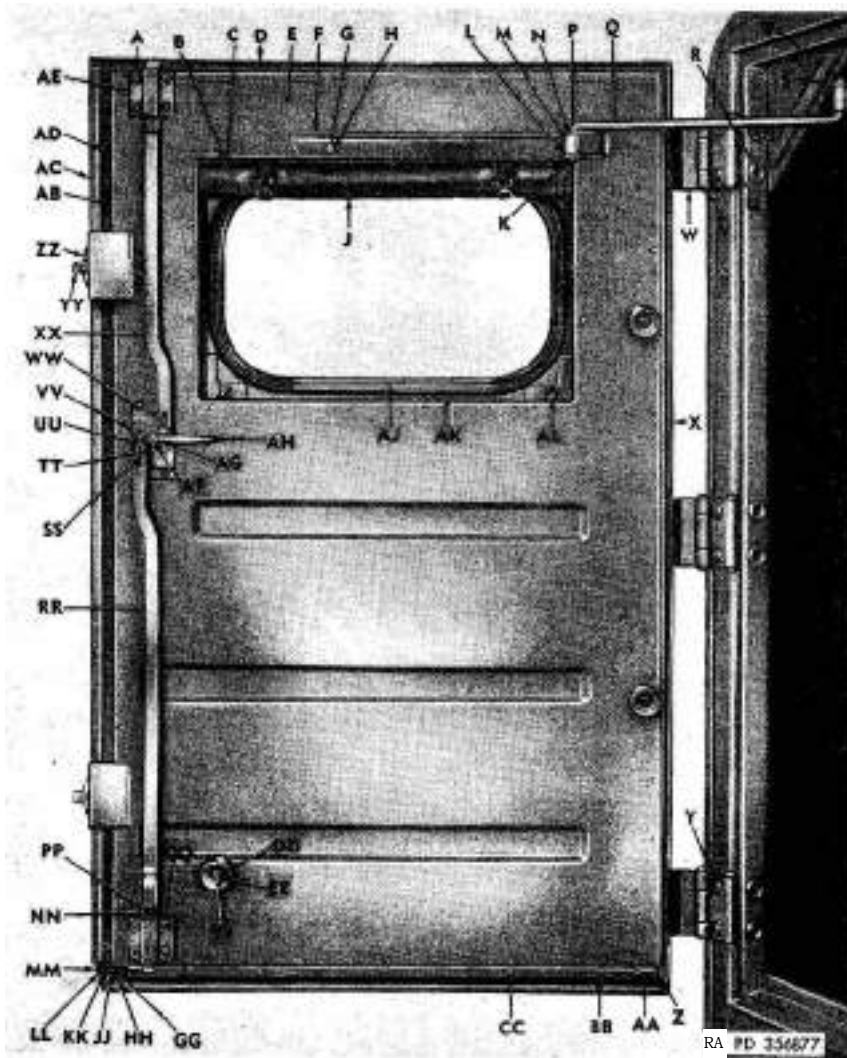

Figure 204. Rear door assembly and related parts.
a. Disconnect Check Arms (fig. 204). Remove cotter pins (T) and check arm plain washers (S). Remove check arms (Q) from brackets on body.
b. Remove Rear Door Assemblies (fig. 204).
- (1) Remove hinge screw hole rubber plugs (R) from body hinge pillars.
- (2) Remove hinge lock washer screws (Y) (four each hinge) from hinges and body-hinge pillar. Remove door assemblies from vehicle.